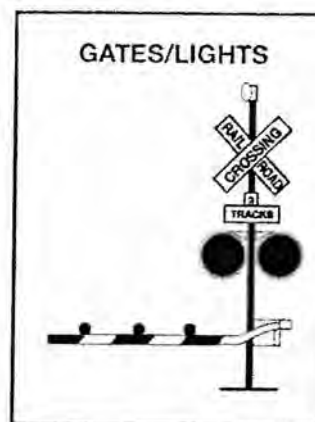

Figure 10.8
**Flashing Red Light Signals.** At many active highway-rail grade crossings, the crossbuck sign has flashing red lights and bells. When the lights begin to flash, stop! A train is approaching. You are required to yield the right-of-way to the train. If there is more than one track, make sure that all tracks are clear before crossing. See Figure 10.8.
**Gates.** Many active railroad-highway crossings have gates with flashing red lights and bells. Stop when the lights begin to flash, and before the gate lowers across the traffic lanes. Remain stopped until the gates go up and the lights have stopped flashing. Proceed when it is safe. If the gate stays down after the train passes, do not drive around the gate. Instead, contact your dispatcher. See Figure 10.8.